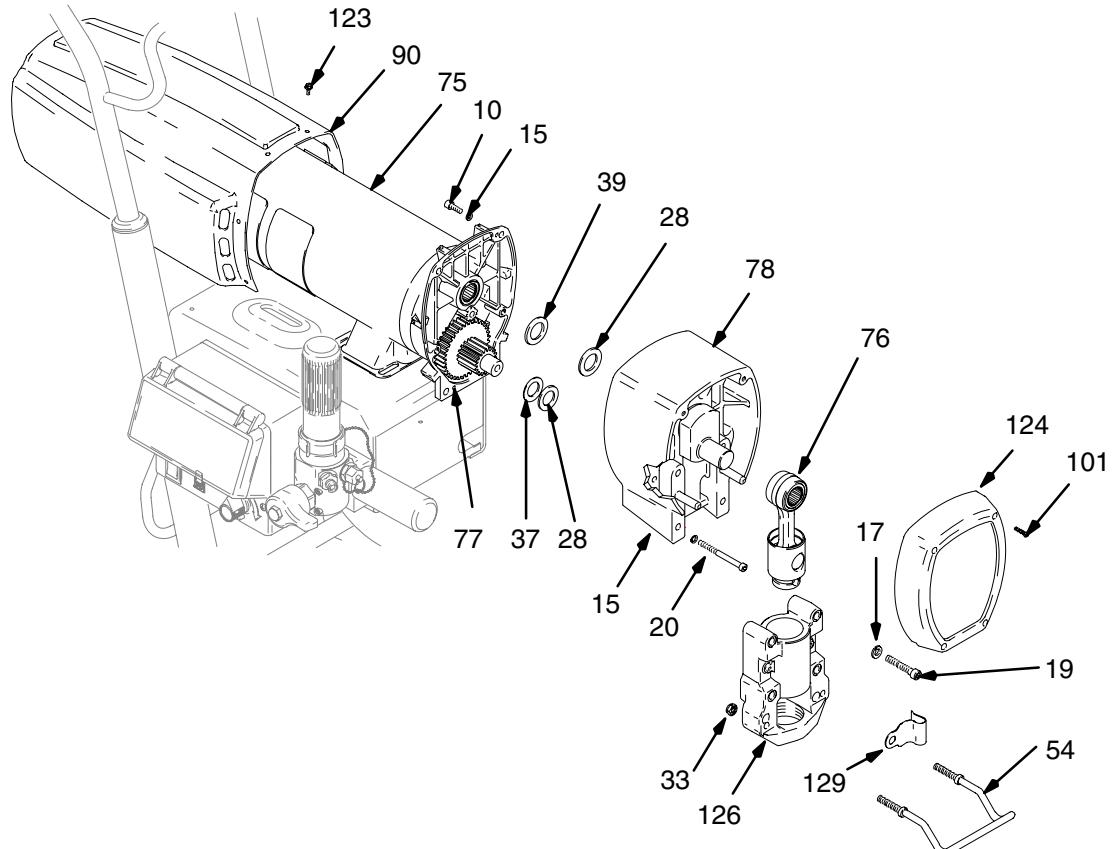

Fig. 10
2. Remove pump (79); **Displacement Pump Replacement**, page 23.
3. Fig. 10. Remove six screws (123) and remove motor shield (90).
4. Remove four screws (10) and washers (15).
5. Remove four screws (101) and front cover (124).
6. Remove four screws (19) and washers (17) and bearing housing (126) from drive housing (78).
7. Remove two screws (20) and washers (15) and pull drive housing (78) off of motor (75).
1. Fig. 10. Apply grease liberally to washers (28, 37, 39, 40), all gears and inside drive housing (78).
2. Push drive housing (78) onto motor (75) and install with two washers (15) and screws (20).
3. Install bearing housing (126) on drive housing (78) with four screws (19) and washers (17).
4. Install front cover (124) and four screws (101).
5. Install washers (15) and four screws (10).
6. Install motor shield (90) with six screws (123).
7. Install pump (79); **Displacement Pump Replacement**, page 23.